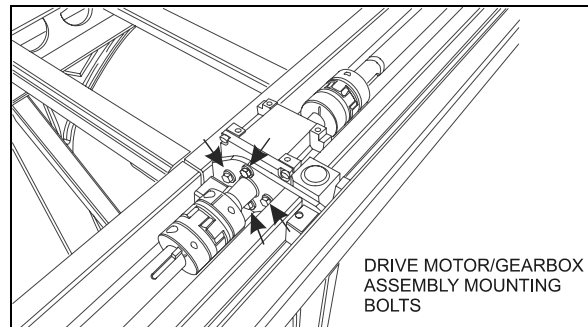

FIGURE 18: DRIVE MOTOR/GEARBOX ASSEMBLY MOUNTING BOLTS
Inspect the electrical connections and their watertightness. Check that the mounting bolts are tight (FIGURE 18).
3. Remove the 4 cap screws securing the drive motor/gearbox assembly and dismount the assembly (see FIGURE 18).